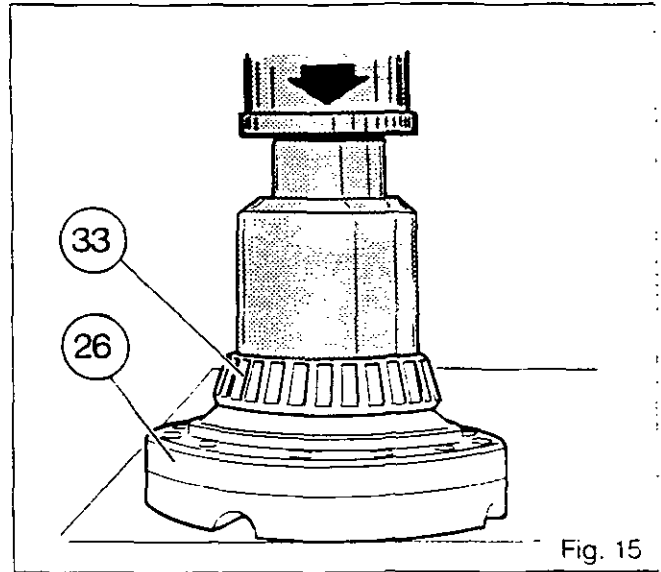

Fig. 15
60. Mount the thrust washer (16) on the coupler (18). Fit the assembly in the piston (14). Fit the lug washer (12) and position the retaining ring (13) in the groove of the coupler.
61. Mount the piston (14) together with the coupler (18) in the packingless casing.
**Note: The dowel (34) is force-fitted in the piston. Check that the piston and the dowel slide freely in the housing. Having carried out the check, remove the piston together with the coupler.**
62. Fit new O-rings (15) and (19). Position the piston with the coupler, then insert it with the aid of a plastic mallet, striking it on the periphery.
63. Position the spring (17) and the washer (20), with the shoulder of the washer facing the spring. Tension the assembly with service tool MF 471 until the washer (21) slides freely in the groove of the casing.
65. Fit the bearing cone (33), if it has been removed, on the housing half (26) using a press or a suitable tool (Fig. 15).
66. Fit the other bearing cone (33), if it has been removed, on the cover (24).
67. Assemble the housing half (25) in the cover (24) (with claw teeth), observing the marking made at the time of dismantling.
68. Position the washer (35) on the axle gear (11). Place the assembly in the housing half (25), putting the tab of the washer in one of the holes of the housing half.